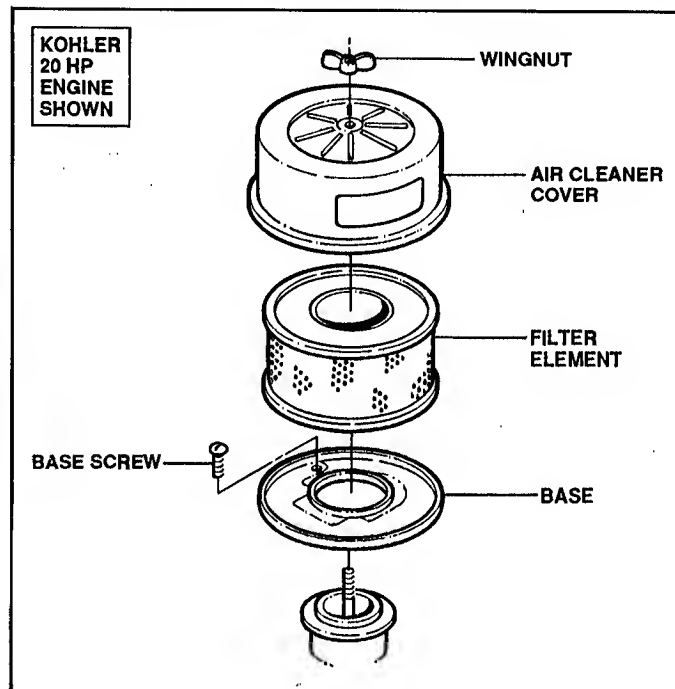

FIGURE 7.1
1. Inspect filter during every engine service or every 25 operating hours (More often if mower is used under extremely dirty or dusty conditions). See Figure 7.1.